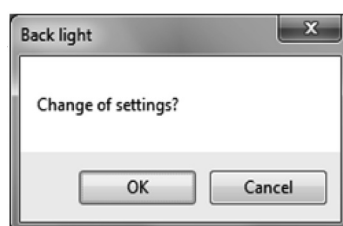

Fig.93
- ⑤ After the setting is complete, click the "OK" button to display a message box (Fig. 93).